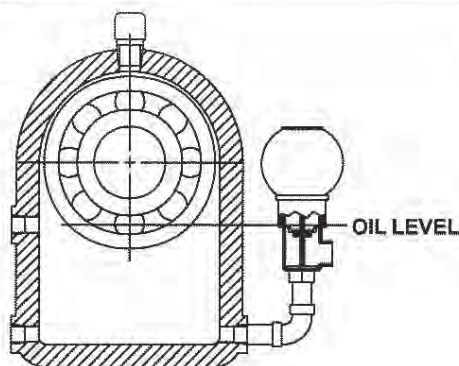

FIGURE 8a
- On those PACO Type LF Centrifugal End Suction pumps ordered with oil lubricated bearings, (Fig. 8a) a regular oil maintenance program must be enforced. Pumps with oil lubricated bearings are fitted with a transparent reservoir (constant level oiler) that maintains oil level about the centerline of the bearing. When necessary, the oil supply in the reservoir of the constant level oiler must be renewed.